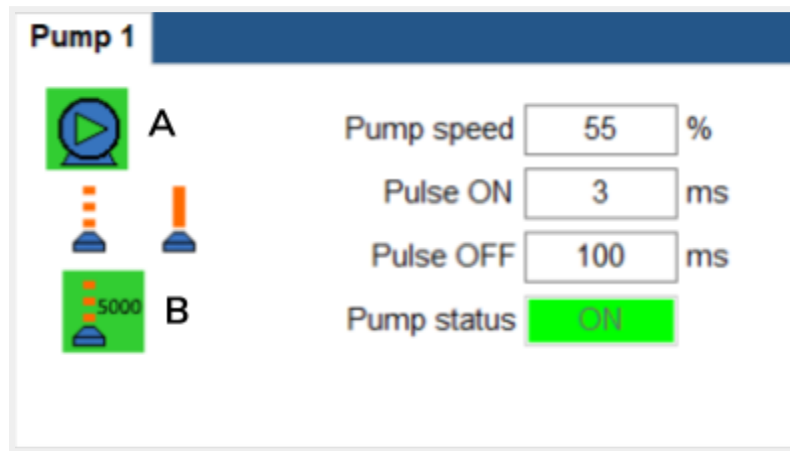

Figure 51.
Turn on the Pump (A) and then Priming Function\* (B) (Refer to Figure 51). Valve Priming is complete.